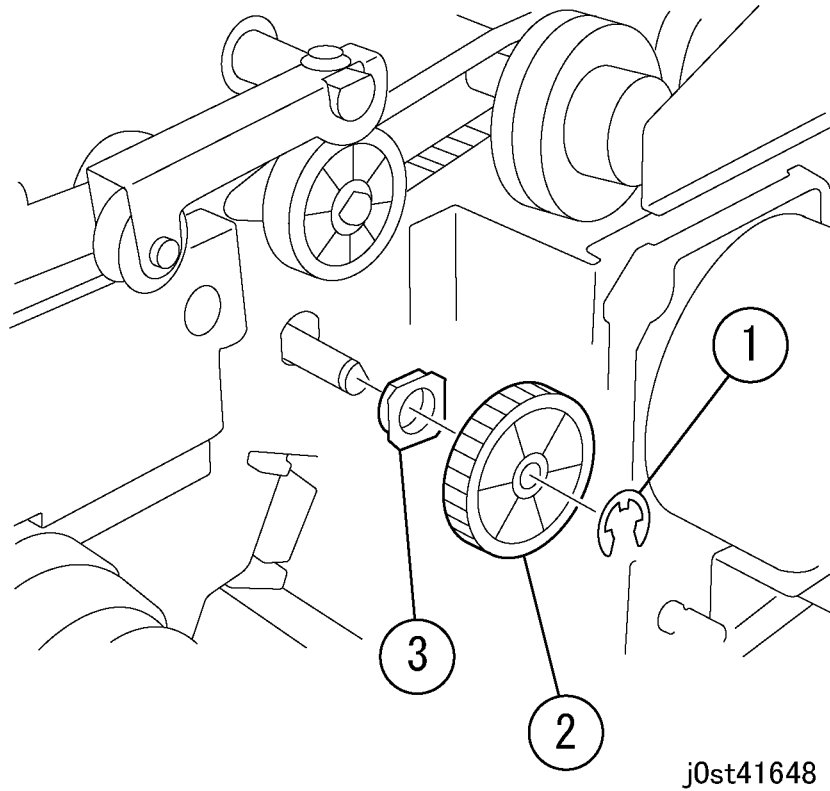

Figure 1 Removing the bearing (j0st41648)
3. Remove the bearing. (Figure 1)